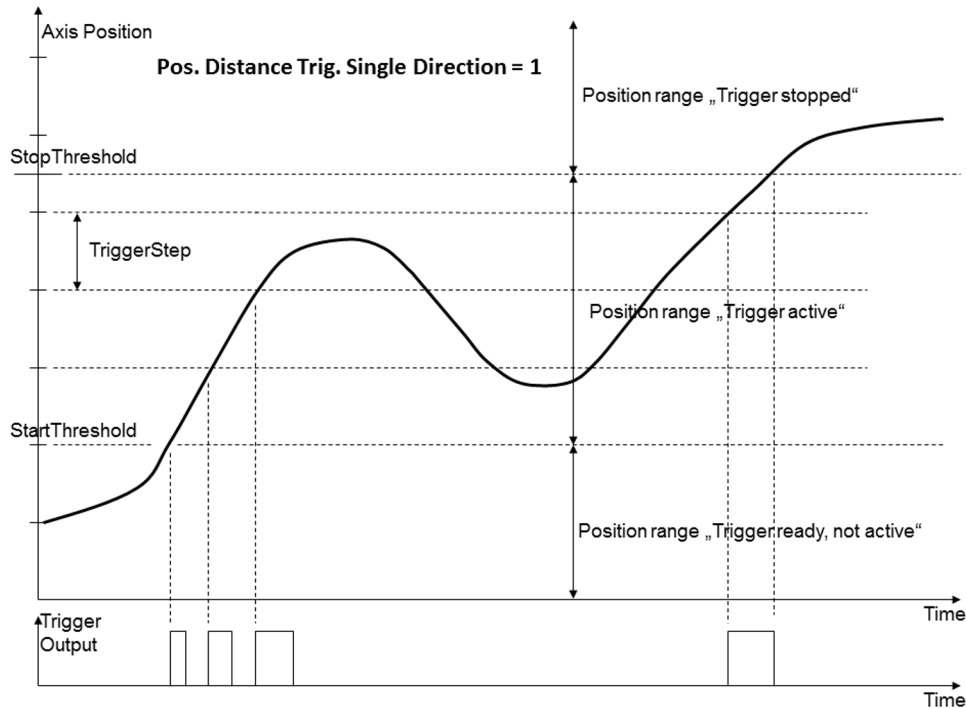

Figure 23: "Position Distance" Trigger Mode with threshold settings, trigger output only for positive direction of motion
- 1 = Trigger is generated only when the position is within the range defined by the start/stop thresholds **and** when the axis moves in the direction determined by the start/stop thresholds (Figure 23)